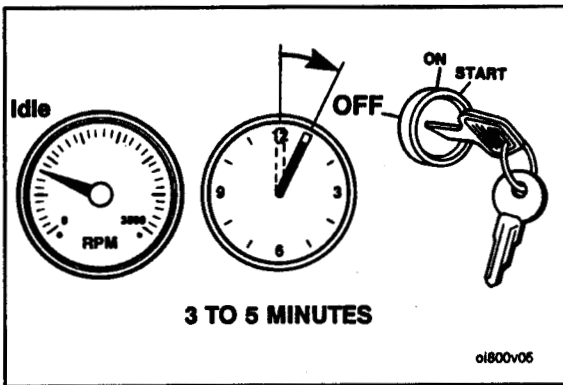

Fig. 1-7 : Using manual override knob
4. Open manual fuel shut-down valve, if so equipped. Fig. 1-7. Electric shut-down valves operate as switch is turned on. A manual override knob provided on forward end of electric shut-down valve allows valve to be opened in case of electric power failure. To use, turn fully clockwise; return to “run” position after electric repair.